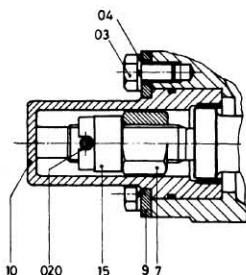

Figure 2
3. **Setting of end stop** (manual operation, ref. fig. 2)